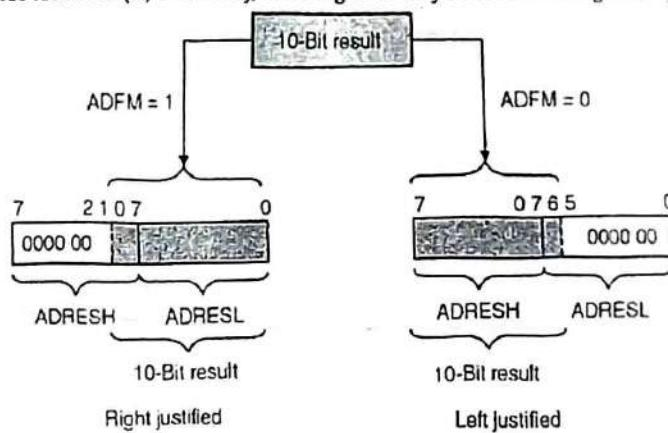

Fig.10.6.2 : A/D Result Justification
- Fig. 10.6.2 shows the operation of the A/D result justification. The extra bits are loaded with '0's. When an A/D result will not overwrite these locations (A/D disable), these registers may be used as two general purpose 8-bit registers.